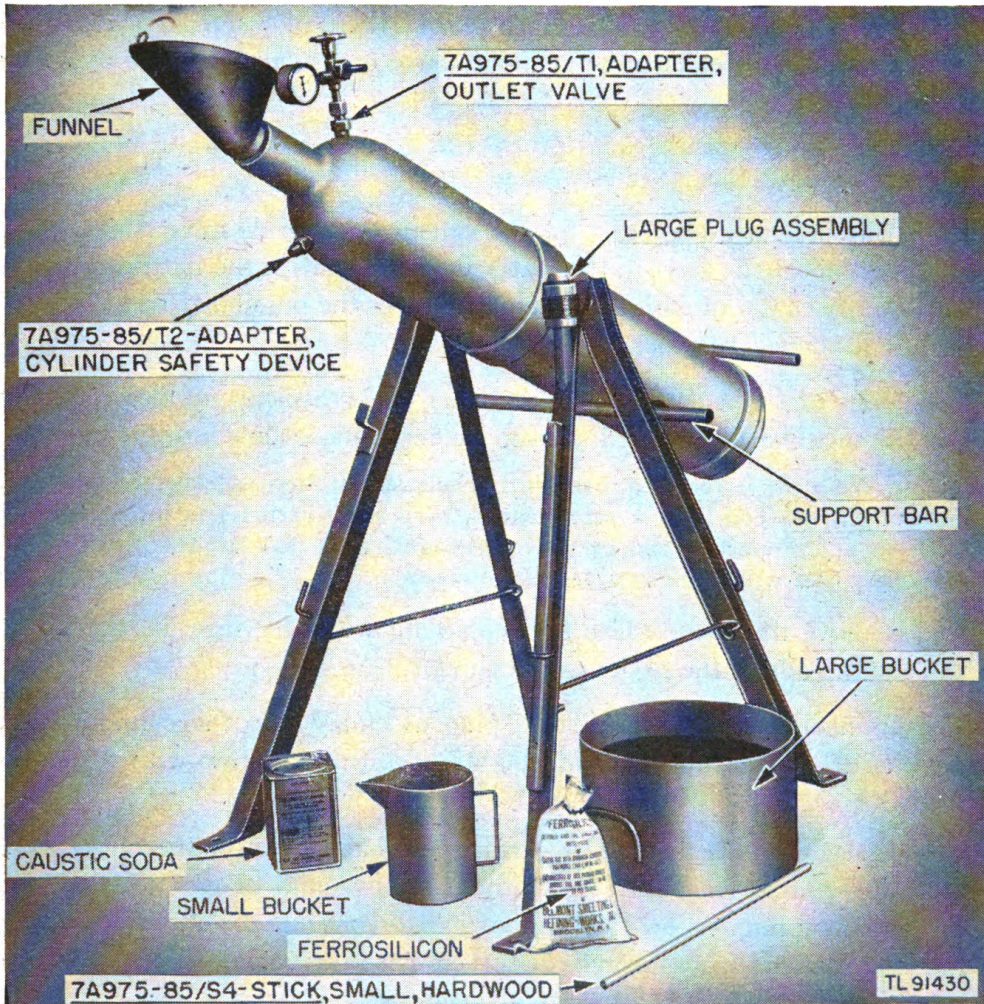

Figure 10. Generator ML-185-(*), inclined charging position.
b. Tilt the cylinder so that the outlet valve assembly is on the upper side. (See fig. 10.) Secure the support bar of the proper A-frame to the bar hook opposite it on the other A-frame. Lower the cylinder *gently* on the crossbar to prevent bending the bar. The bar now supports the cylinder at an angle of 45° .
d. Set the cylinder in the inclined charging position of 45°. (See fig. 10.) Be sure to lock the supporting crossbar in place.